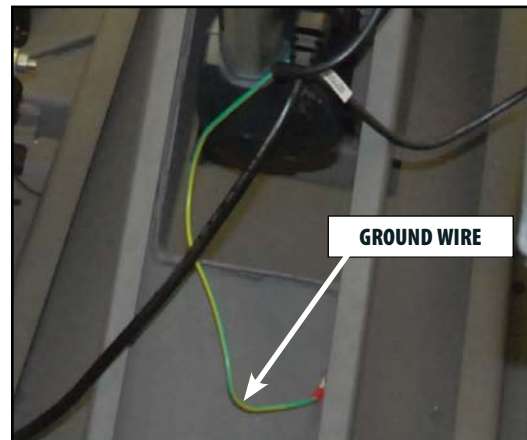

FIGURE 6.26
5. Using an 7 mm Nut Driver, remove the Nut securing the Ground Wire to the center Frame. Refer to **Figure 6.26**.